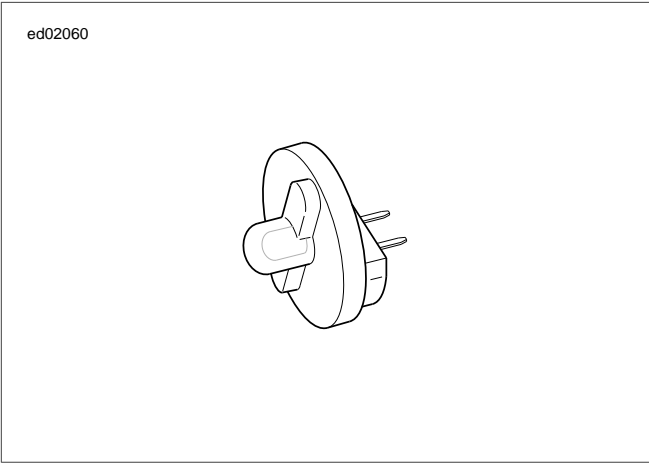

Figure 4-49. Fuel Injector Test Lamp (Part No. HD-34730-2C)
2. See Figure 4-49. Use HARNESS CONNECTOR TEST KIT (Part No. HD-41404-B), purple terminal probes and patch cord to and gray socket probes and patch cord to FUEL INJECTOR TEST LAMP (Part No. HD-34730-2C).
5. See Figure 4-49. Use FUEL INJECTOR TEST LAMP (Part No. HD-34730-2C) to test the purge solenoid circuit by plugging the test lamp into connector [95B].